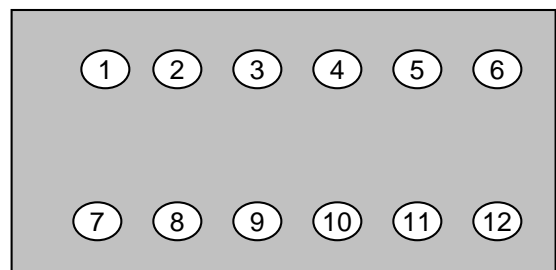

Figure 4
6.6 Breakout Unit Assembly tube colors and arrangement matches ABF fiber bundle strand colors and arrangement. **See Fig. 4.**